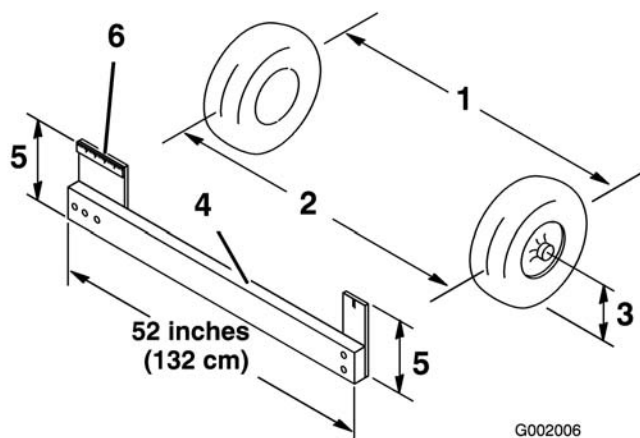

Figure 55
4. Measure the distance between both of the front tires at the axle height at both the front and rear of the front tires (Figure 55). A fixture or alignment gauge is needed for the rear measurement of the front tires at axle height. Use the same fixture or alignment gauge to accurately measure the front of the front tires at axle height (Figure 55).